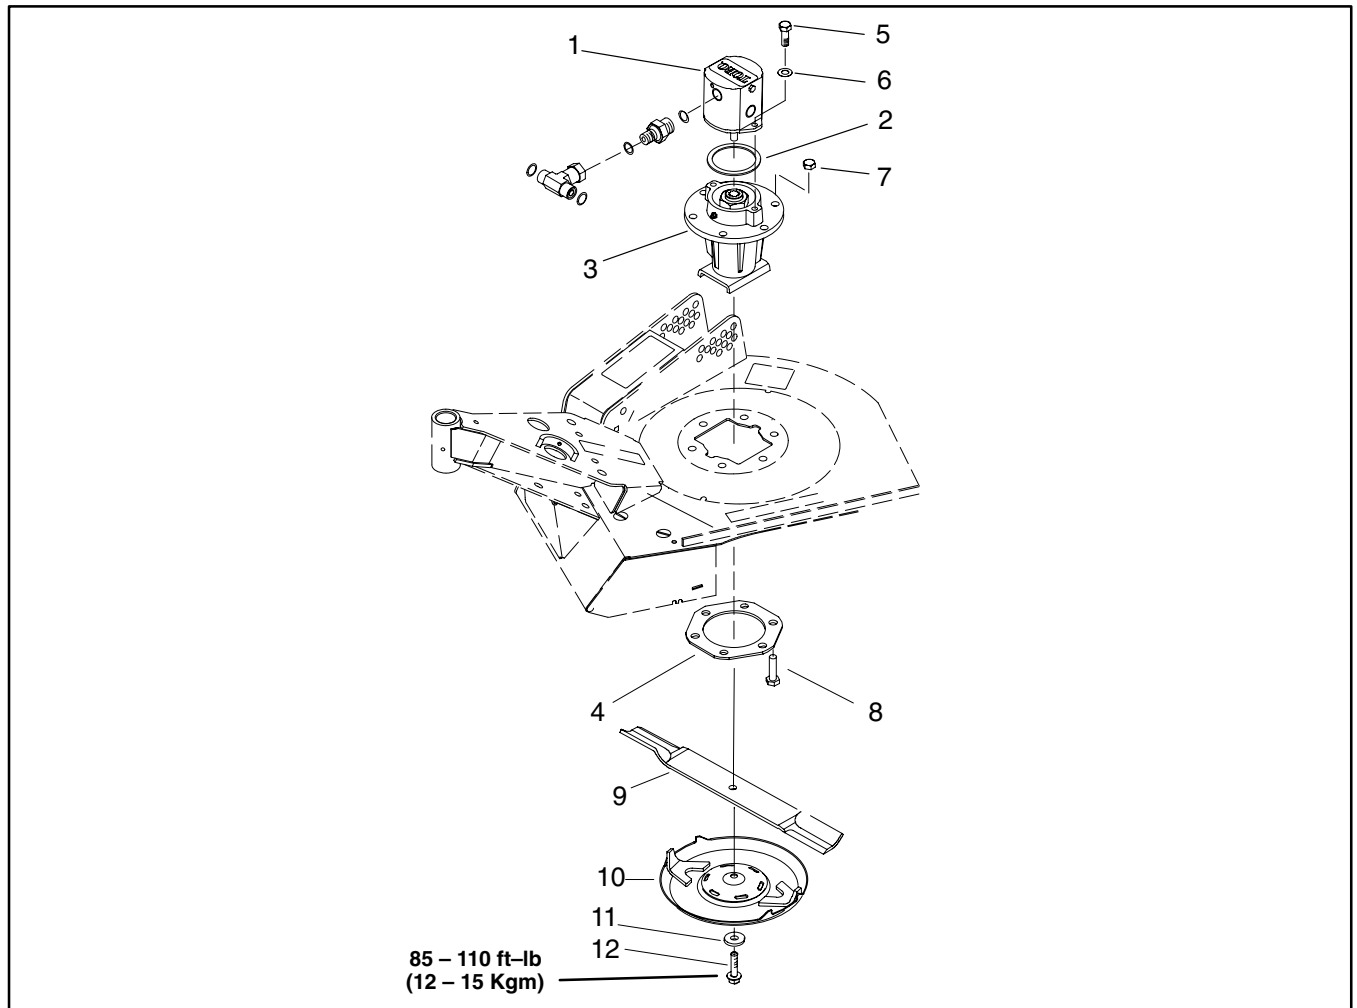

Figure 30
2. Remove two cap screws that secure hydraulic motor to the cutting unit. Remove hydraulic motor and O-ring from deck (Fig. 30).
5. Remove cap screws and lock nuts securing spindle housing to deck. Remove spindle assembly. Remove spindle plate from under deck (Fig. 30).